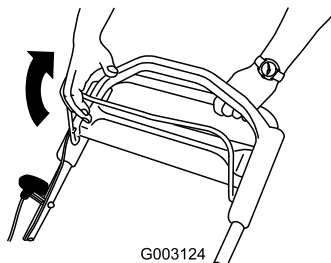

Figure 17
2. Pull the blade control bar to the handle (Figure 17).